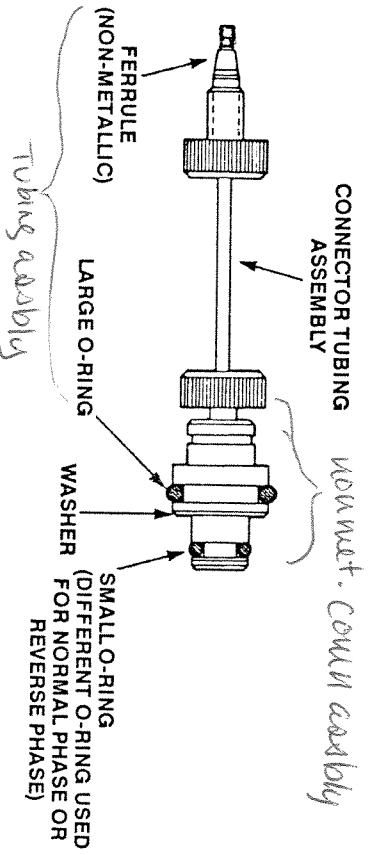

FIGURE 3-1 RCM 8 x 10 MODULE NON-METALLIC CONNECTOR ASSEMBLY (The black cap and E-ring are not shown in the diagram.)
**NOTE:** When referring to the parts called out in Figures 3-1 and 3-2, refer to Appendix B for a listing of the associated replacement part numbers.
3. Place the washers on each connector before inserting a cartridge (Figure 3-1).